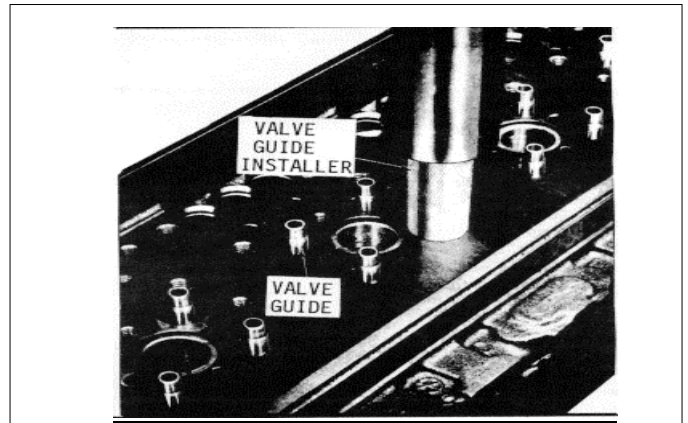

Fig.9
- (b) Position the valve guide squarely in the bore in the cylinder head and press the installing tool gently to start the guide in place (Fig.9). Then press the guide in until the tool contacts the cylinder head.